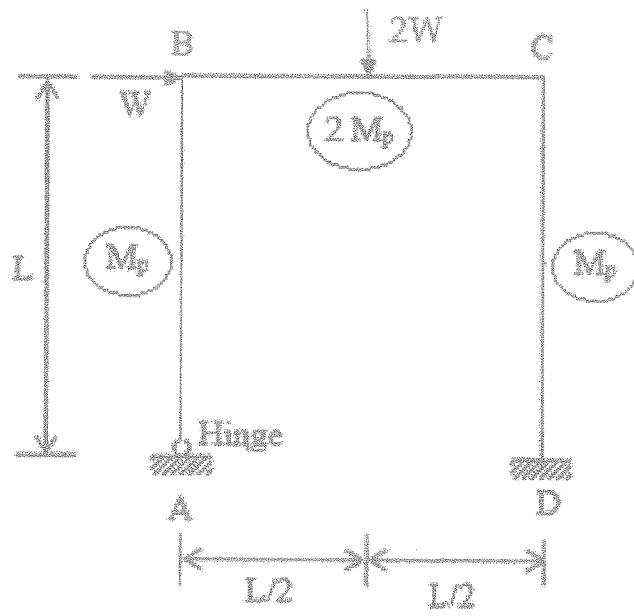

Fig. Q1
- b) A portal frame shown in Fig. Q1 is loaded as shown. Plastic moments are also indicated in the same Figure. It is required to carry out a plastic analysis.